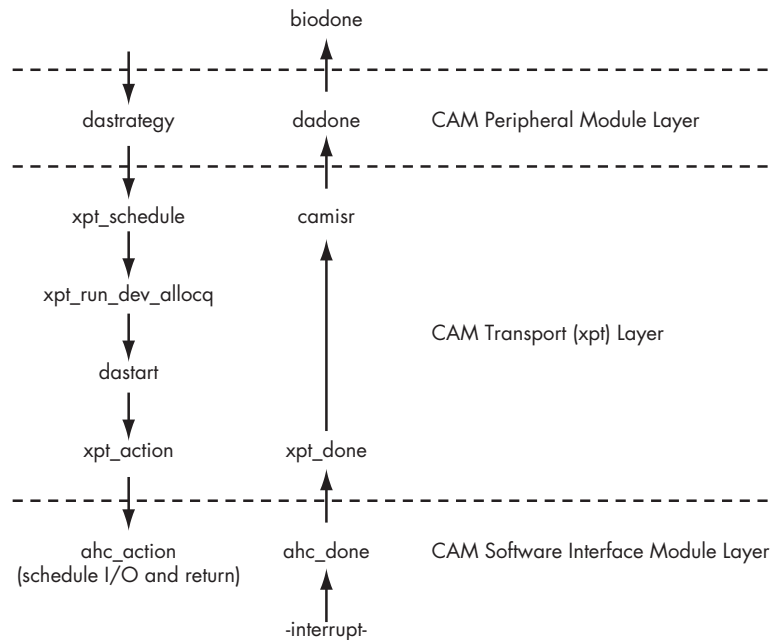

Figure 14-1: The path of an I/O request through the CAM subsystem
In Figure 14-1,¹ the kernel passes a block-centric I/O request to the da(4) peripheral module. As you would expect, this causes da(4)’s strategy routine (dastrategy) to execute.
1. Figure 14-1 is adapted from *The Design and Implementation of the FreeBSD Operating System* by Marshall Kirk McKusick and George V. Neville-Neil (Addison-Wesley, 2005).